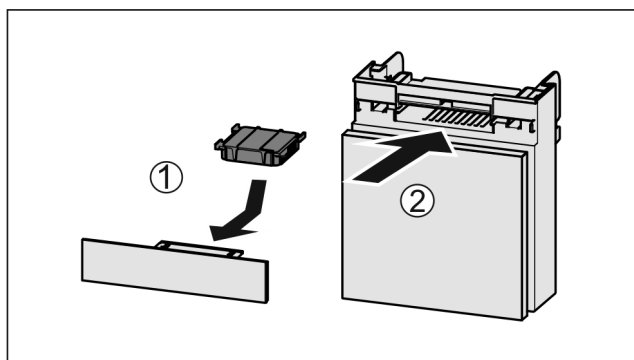

Fig. 57
- Insert the carbon filter as shown in the diagram Fig. 57 (1).
- Push the compartment in Fig. 57 (2).